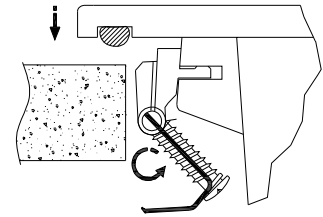

Fig 2.
- Unscrew the fixing clip screws fully then rotate the hook section of the fixing clips away from the sink edge (fig. 2), this will clear the clips of the cut out when fitting the sink.